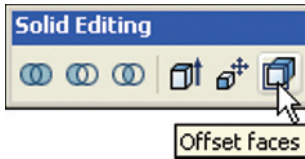

Fig. 18.10 The **Offset faces** tool icon
2. Click on the **Offset faces** tool icon in the **Solid Editing** toolbar (Fig. 18.10). The command line shows: